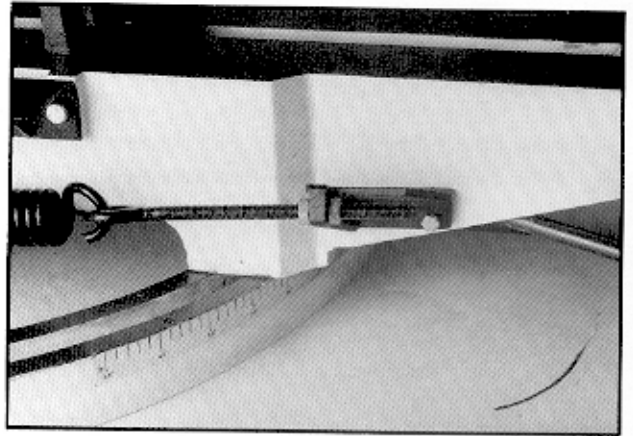

Fig. 12
5. Adjust tension to approximately 22-24 lbs. by turning the adjustable C-bolt found at the end of the coil spring on the rear of the bandsaw. See Figure 12.